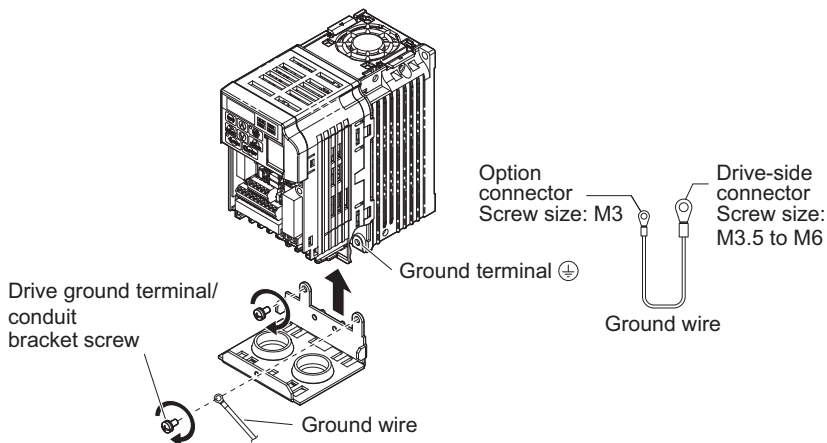

Figure 11 Reattach the UL Type 1 Conduit Bracket and Connect the Ground Wire for models CIMR-V□BA0001F to BA0003F, 2A0001F to 2A0006F
8. On UL Type 1 enclosure models (CIMR-V□BA0001F to BA0003F, 2A0001F to 2A0006F), the screw for the drive ground terminal also acts as one of the screws that attaches the conduit bracket to the drive. Reattach the conduit bracket according to Figure 11 and connect the drive-side of the ground wire to the drive ground terminal.